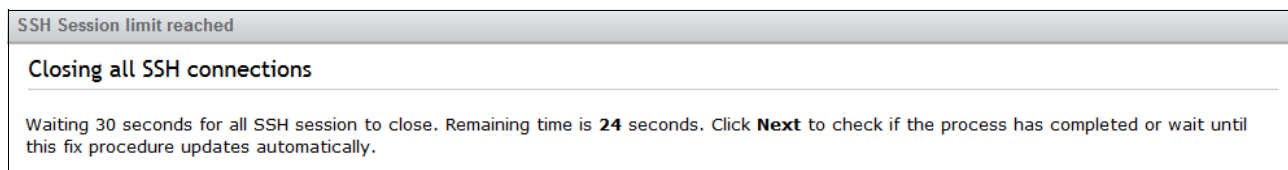

Figure 13-19 Warning about closing all SSH connections
3. A warning that all CLI connections will be closed is displayed (Figure 13-19). Click **Next** to determine whether the process is completed.